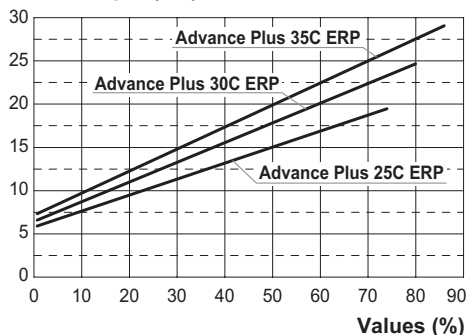

Fig. 8.30
Refer to Fig. 8.30 and determine the correct Value appertaining to the output required for the central heating requirement.
- It is possible to modify parameter using keys 13 or 14 (Fig. 8.31) (Refer to Fig. 8.30 and determine the correct Value appertaining to the output required for the central heating requirement.).